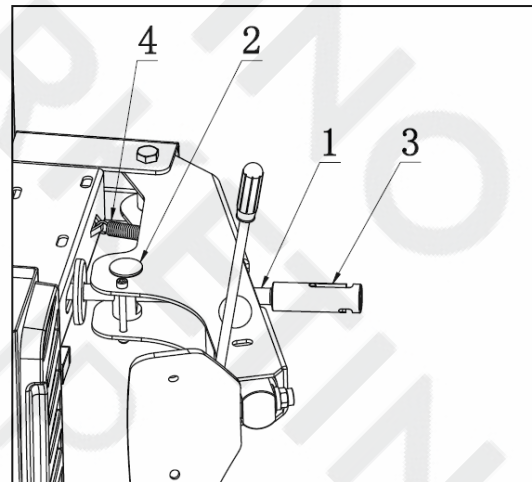

FIG9
- As shown in Fig9, plug cylinder rod (FIG9-1) into the hole of bead breaking arm slide bush (FIG9-2). Twist the adjusting device (FIG9-3) onto the end of cylinder rod.
- Hang the spring (FIG9-4) like the FIG9.